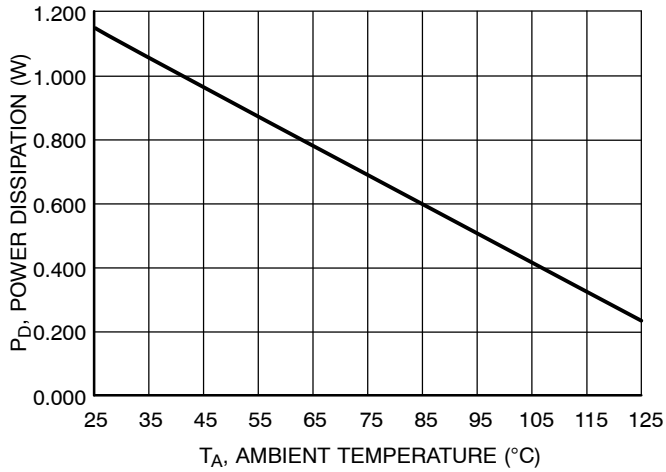

Figure 3. Total Power Dissipation (P_D) vs. Ambient Temperature (T_A)
| Total Power Dissipation (Note 2) Derating above 25°C (Figure 3) | P_D | 1.13 9.0 | W mW/ $^\circ\text{C}$ |
9. If $P_{D_total} > 1.13 \text{ W}$ (or derated value per Figure 3), then select the most appropriate recourse and repeat steps 1–8:
9. If $P_{D_total} > 1.13 \text{ W}$ (or derated value per Figure 3), then select the most appropriate recourse and repeat steps 1-8: